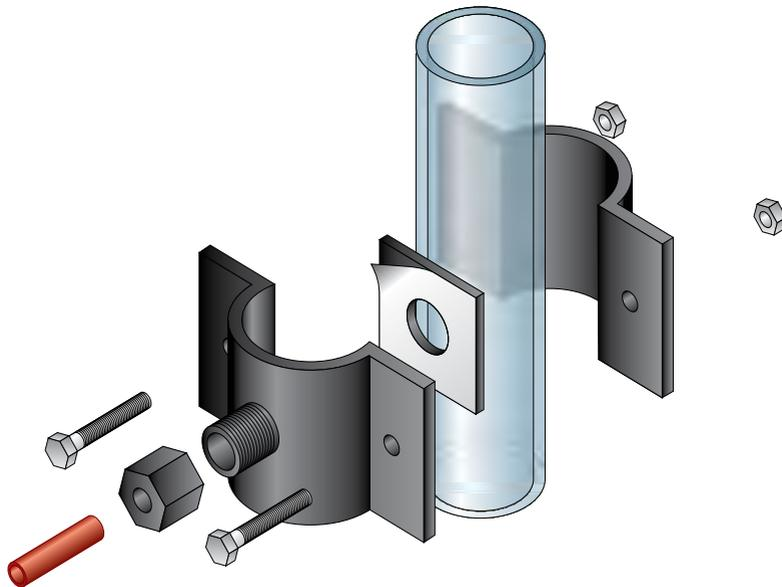

Figure 8: Drain Saddle Assembly
C. Peel off the paper backing from the drain gasket and apply the gasket to the “port” connection of the drain saddle. (See Figure 8). Make sure to align the drain saddle to the drilled hole. Attach the drain saddle to the drain pipe and tighten the two screws evenly.